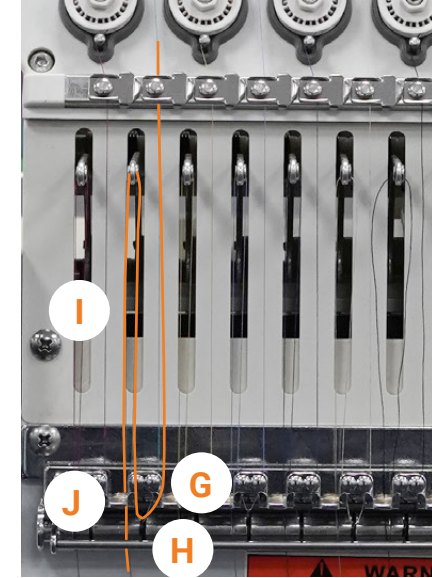
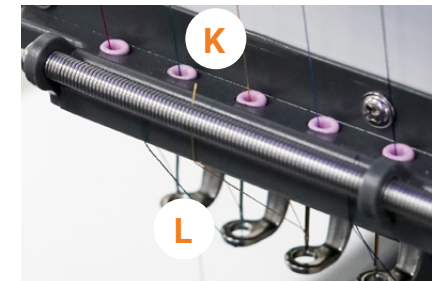

Figure 24
Figure 25
9. Next, thread the check spring and the lever arm. Begin by lifting the spring lever to place the check spring into threading position. Now, coming down from the right side, pass the thread over the outer right side of the rollers and then in through the opening in the center. **See point G in Figure 24.**
10. Next, pass the thread through the spring from the right to the left. **See point H in Figure 24.**
11. Then, take the thread and pull it through the opening in the center and out over the outer left side of the rollers. Continue pulling the thread up until you reach the lever arm. **See point I in Figure 24.**
12. Now, pass the thread through the opening of the lever arm from the right to the left. **See point I in Figure 24.**
13. Then pass the thread back down until it runs through the ceramic eyelet. **See point J in Figure 24.** Continue running the thread down the same path until it passes through the following ceramic eyelet. **See point K in Figure 25.**
14. Pass the thread through the eye of the needle from the front to the back, and then in through the presser foot. **See point L in Figure 25.**